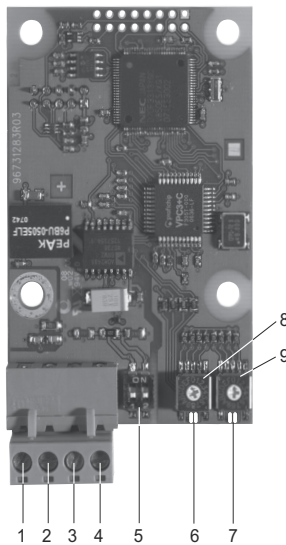

Fig. 3 CIM 150 PROFIBUS module
Note The power supply (pos. 4, fig. 3) must only be used for external termination.
The CIM 150 PROFIBUS module has two LEDs. See fig. 3.